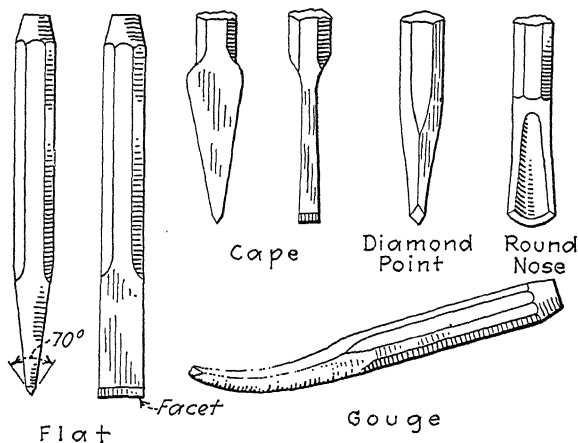

FIG. 219.—Forms of cold chisels.
**251. Cold Chisels.**—Cold chisels are made in several shapes (see Fig. 219). The flat chisel is used for chipping flat surfaces, and often for cutting thin sheet metal. The cape chisel is forged to give the greatest strength possible with a narrow cutting edge. It is used for chipping grooves and often holes or slots where a sturdy narrow chisel is needed. The diamond-point chisel is used for cutting V-shaped grooves or for chipping in square corners. The round-nose chisel and the "gouge chisel" are used for such work as roughing out small convex surfaces or filleted corners and for chipping oil grooves, etc. The gouge chisel is used also for drawing a drill to center.